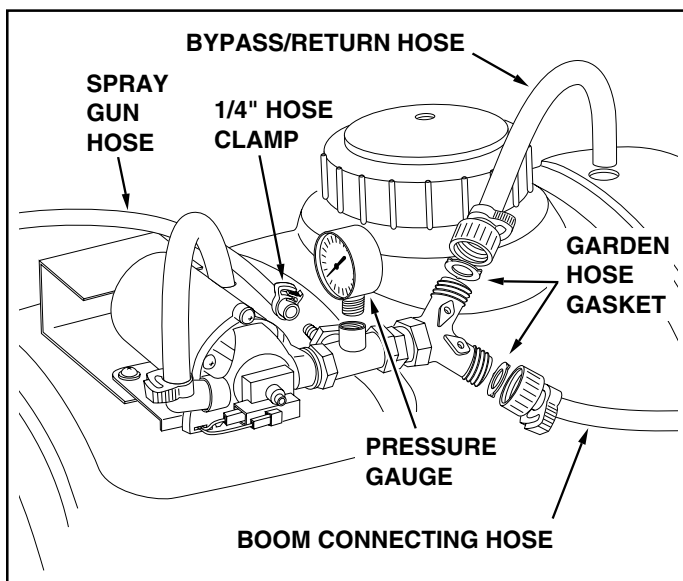

FIGURE 10
14. Insert a garden hose gasket into the swivel nut on the bypass/return hose. Screw the nut onto the upper outlet of the "Y" valve fitting. Place the other end of the hose down through the hole at the rear of the tank. See figure 10.
15. Insert a garden hose gasket into the swivel nut on the boom connecting hose. Screw the nut onto the lower outlet of the "Y" valve fitting. See figure 10.
16. Slide the 1/4" hose clamp onto the spray gun hose. Push the hose onto the hose adapter on the side of the "T" fitting as shown in figure 10. Tighten the clamp around the hose and the adapter. Wrap the hose around the tank and snap the spray gun into the clips on the side of the tank.
17. Carefully screw the pressure gauge into the top of the "T" fitting. See figure 10.